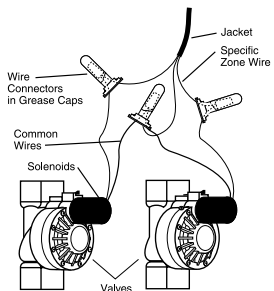

Figure 19: Wiring Valves
- Each valve has two wires. One wire is to be connected as the common. The common wires for all the valves can be connected together to one common wire going to the timer. The other valve wire is to be connected to the specific station wire that will control that valve [See Figure 19].